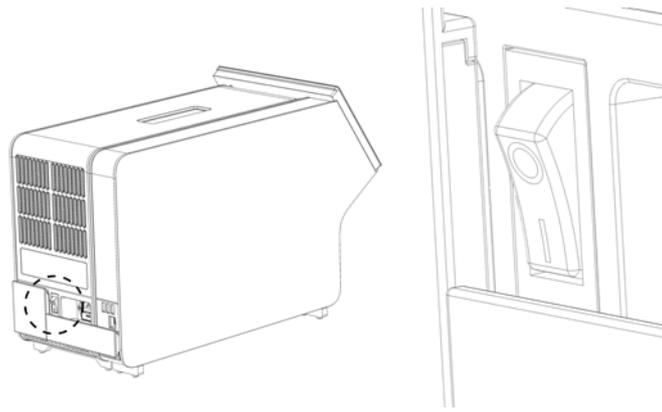

**Figure 20. Connecting the power cord.**
8. Connect the power cord that was delivered with the QIAstat-Dx Analyzer 2.0 to the back of the original Analytical Module (Figure 20).